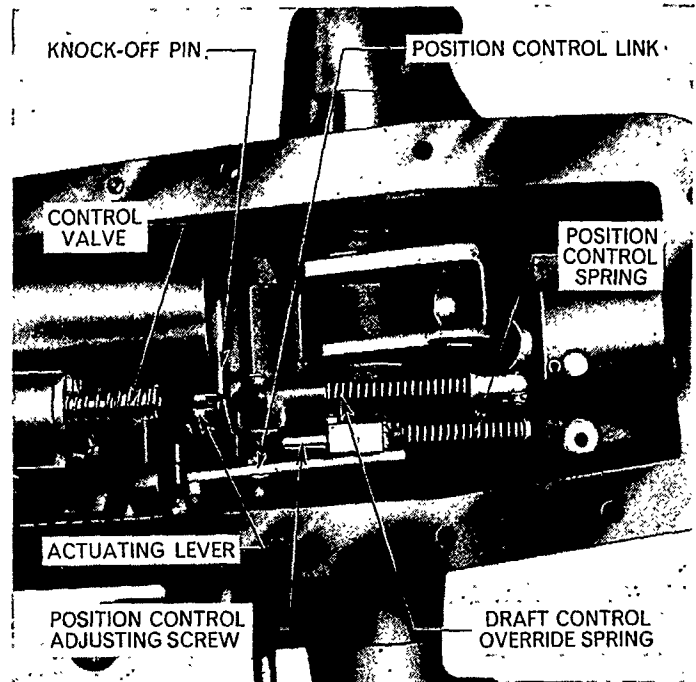

Figure 76
13. Install the draft control override spring assembly and secure to the control lever shaft with a snap ring, Figure 76.
17. Secure the draft control override spring to the yoke with a clevis pin and cotter pin, refer to Figure 76.